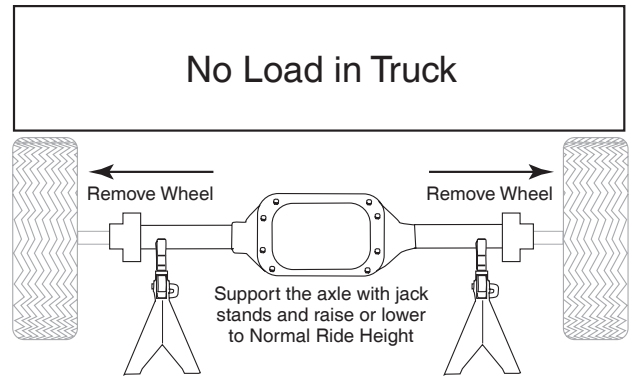

Figure 1
1. Elevate the rear of the vehicle and secure the frame with jack stands or frame-contact hoist. Secure and position the axle to simulate ride height using a second set of jack stands (Figure 1).